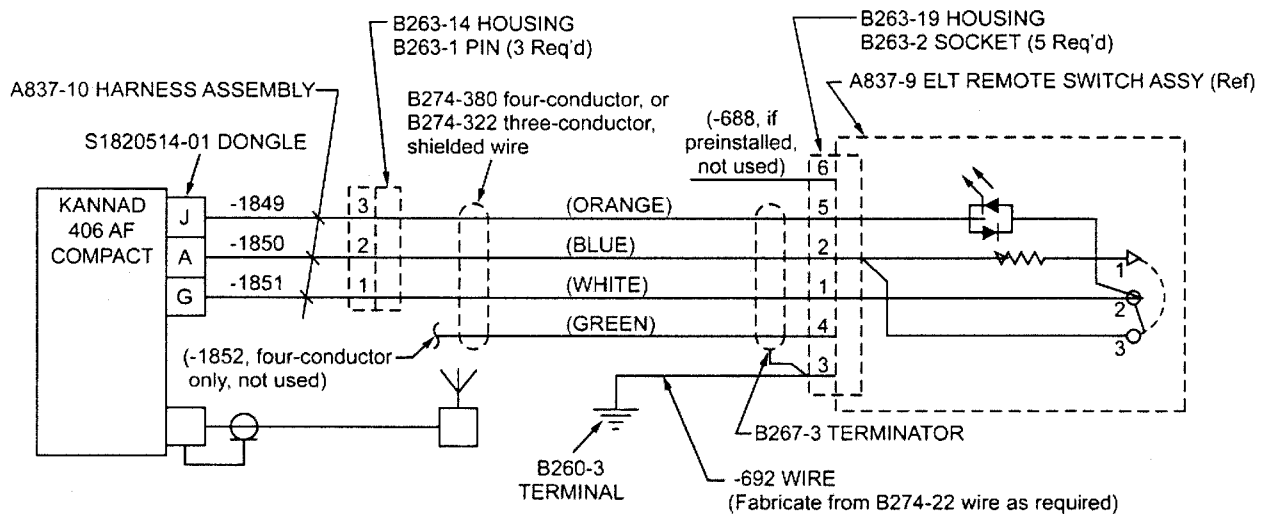

FIGURE 4 WIRING SCHEMATIC
10. At forward end of four-conductor shielded wire, strip insulation from and crimp a B263-2 socket on each colored wire and heat-shrink B267-3 terminator on shield. Fabricate -692 wire from approximately two feet of B274-22 wire. Strip insulation and crimp B260-3 terminal on one end of -692 wire. Strip insulation on opposite end of -692 wire and crimp both this end and B267-3 terminator's lead in a single B263-2 socket. Insert sockets in B263-19 housing per Figure 4.
11. At aft end of shielded wire, strip insulation from and crimp B263-1 pins on orange, blue, and white wires. If shielded wire has four conductors, cut green wire flush with shield. Insert pins in B263-14 housing per Figure 4.